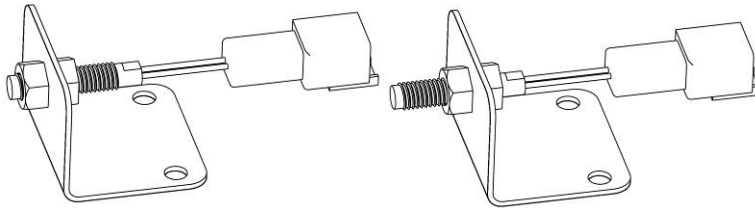

Figure 19: Adjusting the work switch length
6. Adjust the position of the locknuts on the work switch assembly so that the work switch is within a few inches of the work switch magnet when the work switch is engaged, as shown in Figure 19.